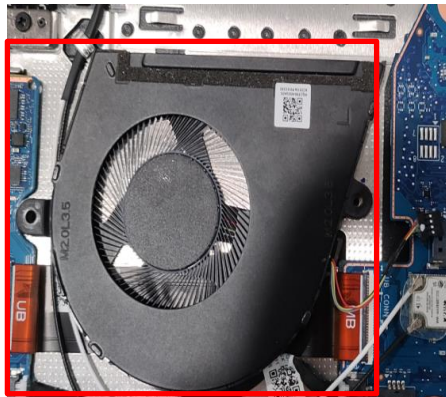

Figure 3-25. SSD Removal
2. Remove the FAN from C cover (Figure 3-25).